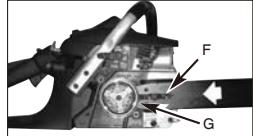

Fig. 3E
4. Place the slotted end of the guide bar over the bar bolt (F). Slide guide bar behind clutch drum (G) until the guide bar stops (Fig.3E).